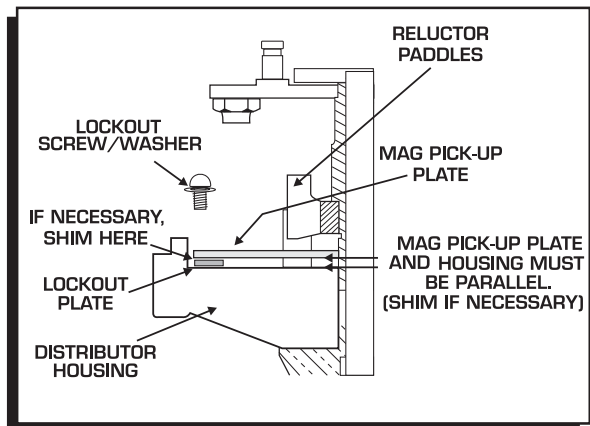

Figure 11 Checking Installation of the Lockout Plate.
1. Remove the two Allen head screws that hold the advance canister (Figure 11).
6. It is important to make sure the pickup plate is parallel with the housing of the distributor (Figure 11). If it is cocked or slanted, the paddles of the reluctor may contact the pickup. Check the clearance by rotating the distributor shaft. If necessary, use the supplied shims under the Lockout hold-down to correctly position the pickup plate.